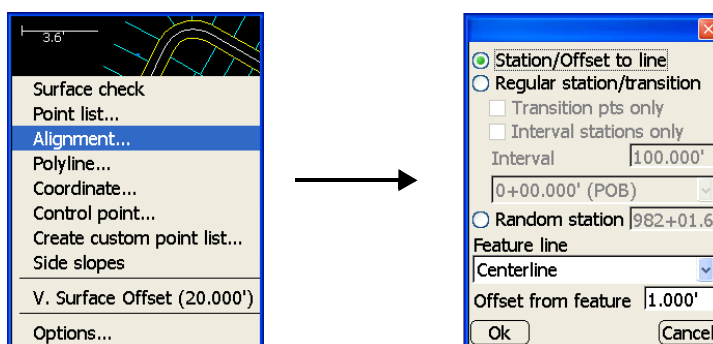

Figure 7-11. Navigate to and Select Alignment Stakeout Parameters
1. To stake-out a station on an alignment, press **Survey ► Stake-out ► Alignment** (Figure 7-11 on page 7-10).
2. On the *alignment stake-out parameters* dialog box, set the following parameters, then press **Ok** (Figure 7-11 on page 7-10):